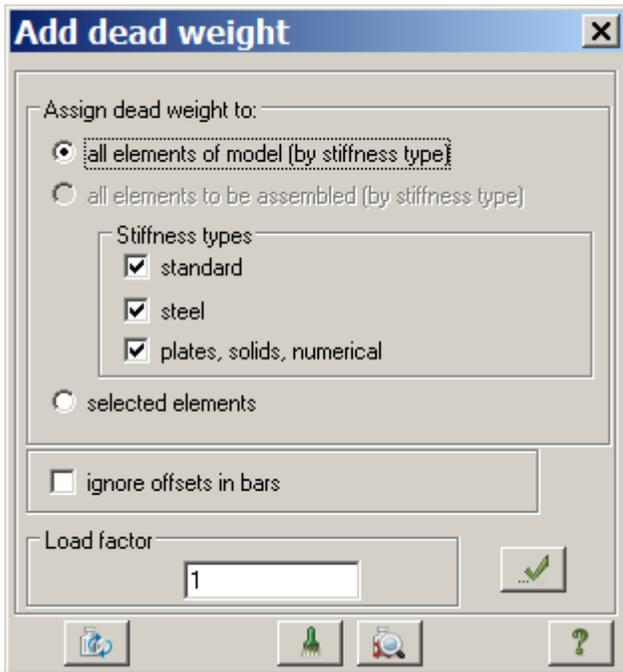

Figure 22.14 **Add dead weight** dialog box
- ⇒ In the **Add dead weight** dialog box (see Fig.22.14), click **All element** and specify **Load factor** as equal to 1. Then click **Apply**  (dead weight is automatically applied to elements).